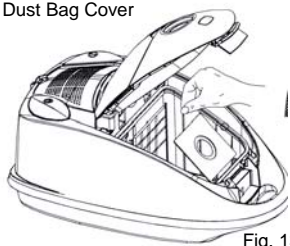

Fig. 13
2. Depress the dust bag cover release button and remove the dust bag. (Fig. 13)
3. Remove the HEPA dust bag from the holding slot, do not let dust fall out of HEPA dust bag. (Fig. 13)